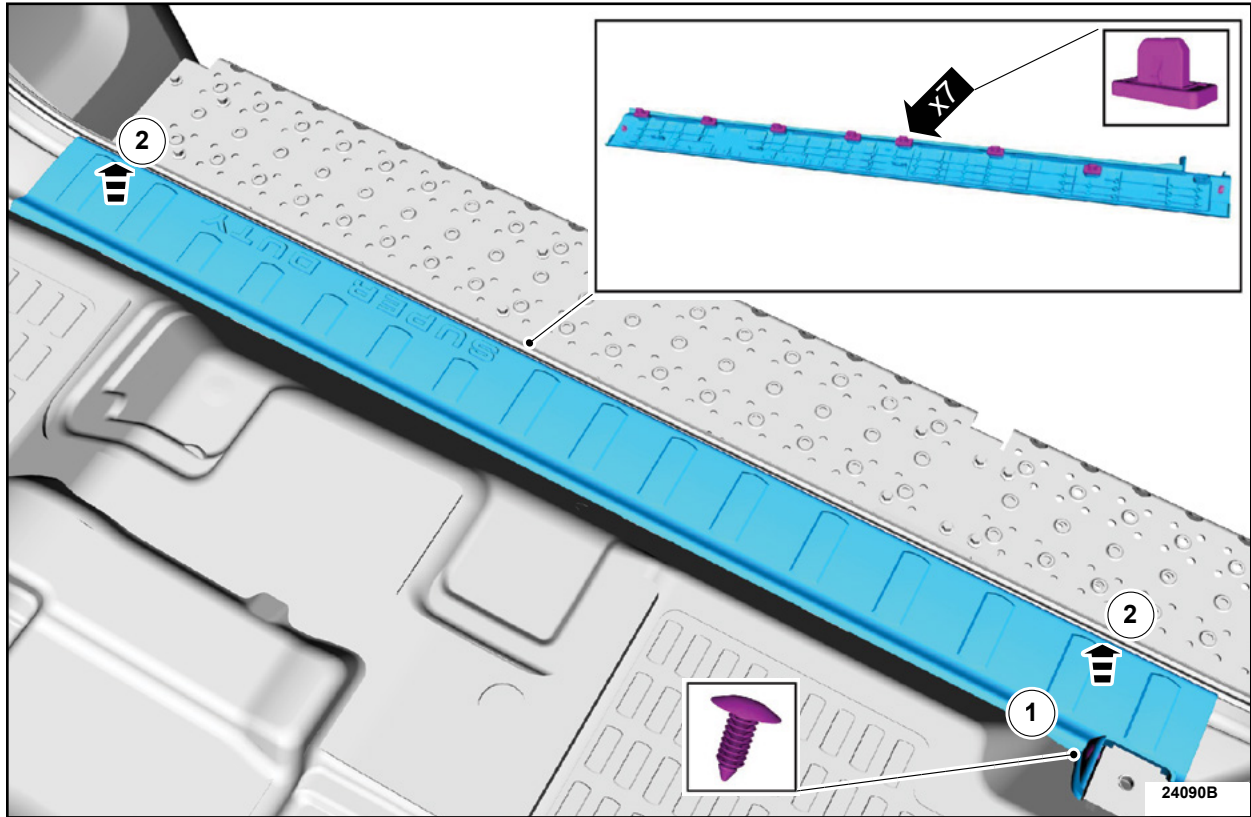

FIGURE 2
2. Remove the retainer, release the clips and remove the passenger side scuff plate. See Figure 2.